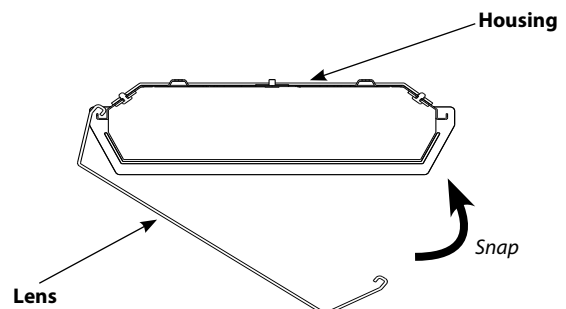

Fig. 2
7. Replace **Reflector**. Be careful not to pinch wires. Hook **Lens** to one side of **Housing** and Snap **Lens** into place as shown in Fig. 2.